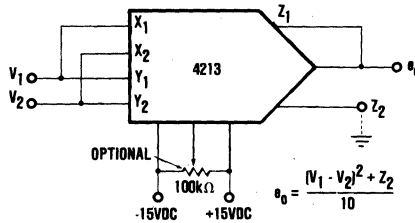

FIGURE 7. Squaring Connection.
8.3.3 Squaring. The basic connection is shown in Figure 7.